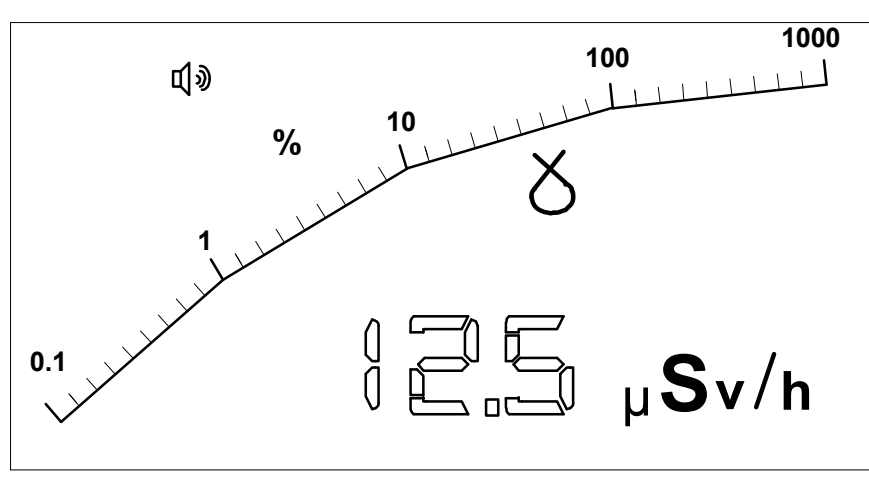

Figure 4.
- After the system checks have completed, the unit automatically defaults to the "MEASUREMENT" mode. Figure 4 appears on the display.